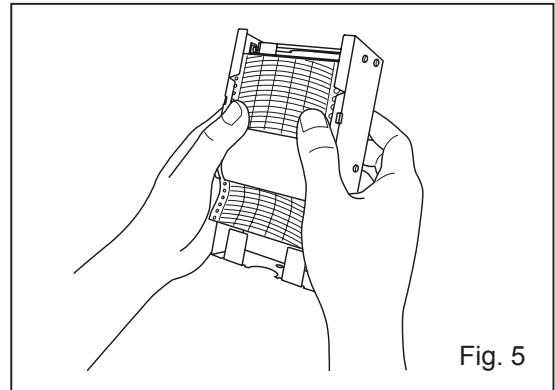

Fig. 5
5. Place the recording chart between the guide and the guide plate. Slide the recording chart along the guide plate so that the recording chart will not be forced out of the date/hour slot. See Fig. 5.